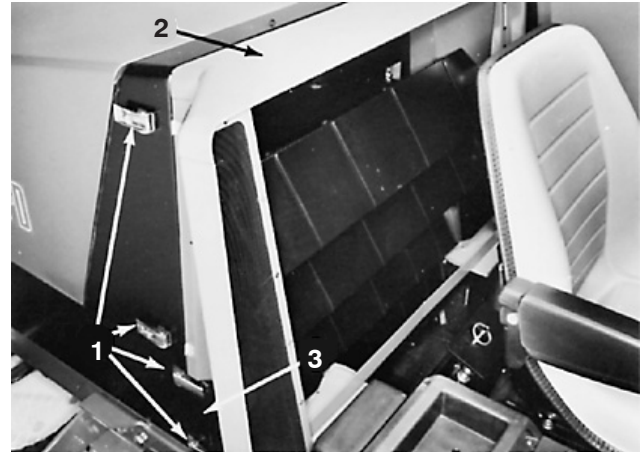

Figure 45
- B. Unlatch latch handles on both sides and remove radiator cowl and grille support (Fig. 45).